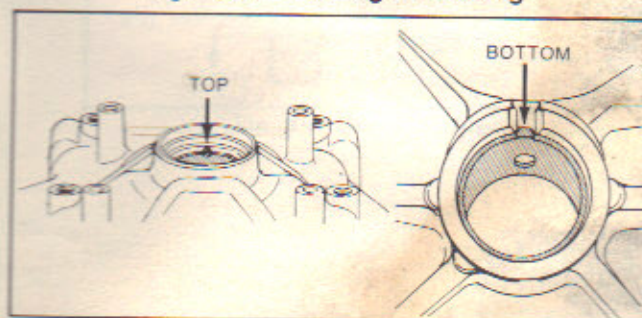

Figure 4 — Staking Bearing
4. Stake DU™ bearing at top and bottom, figure 4, using 1/4" (6.35 mm) round pin punch. NO FINISH REAMING IS NECESSARY.